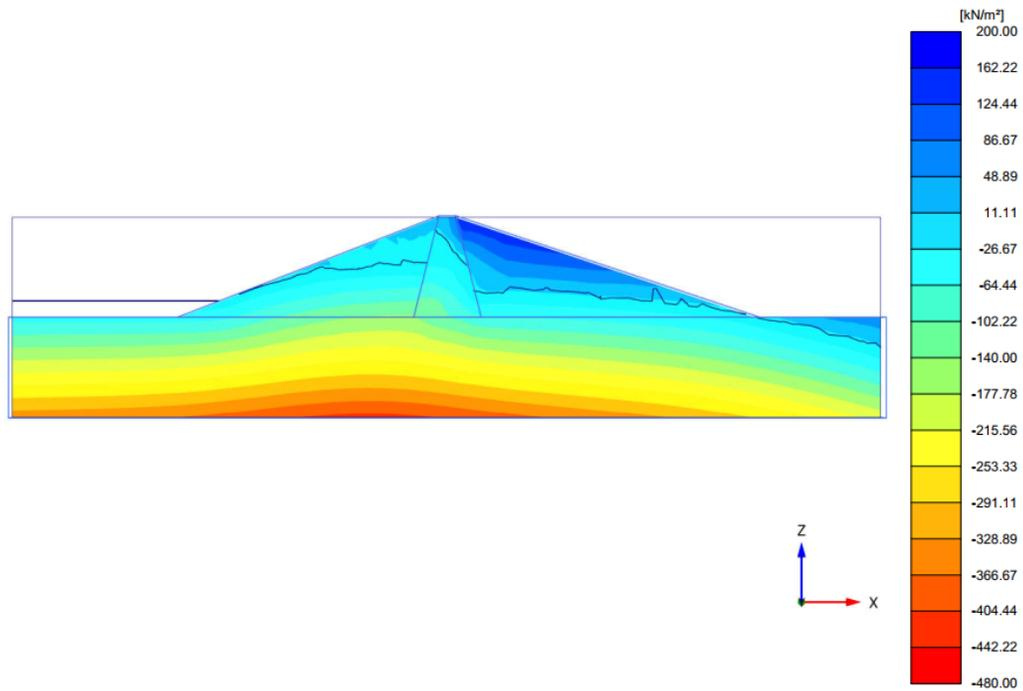

Figure 114: Pore water pressure distribution after slower drawdown (Phase_2)
- The situation after slow drawdown of the reservoir level - See Figure 114 (on page 141).